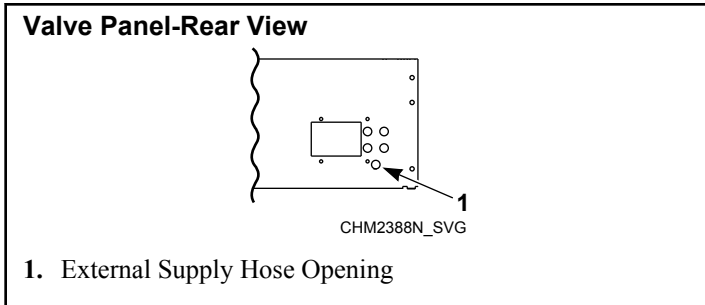

Figure 36
1. Facing the rear of the machine, locate the five (5) 3/8 inch [10 mm] supply hose connections found on the right-hand side of the valve panel. Refer to *Figure 36*.